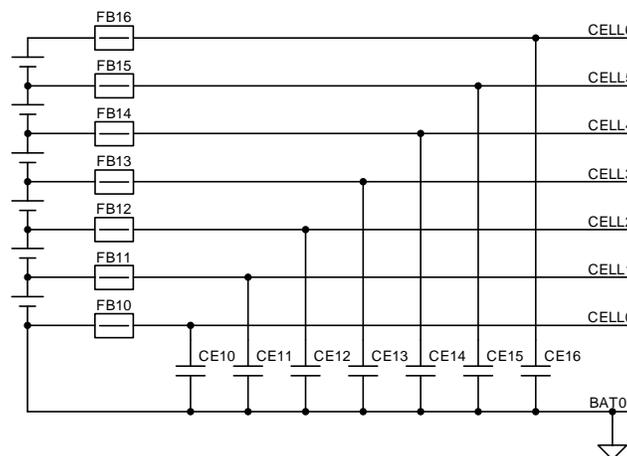

Figure 35. EMC Filter
- Add a 0.0033- $\mu$ F capacitor from each cell input to the battery pack (BAT0 in Figure 35). Adjust the value of capacitance to satisfy the PCB layout and field conditions for the application.